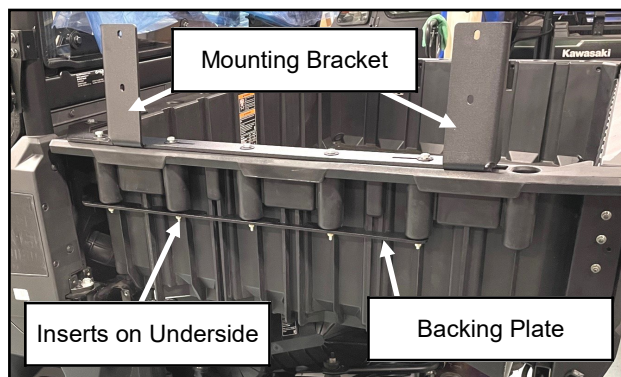

Fig. 8; Install Left Bracket and Backing Plate
8. Put the bed back down. Using (6) of the supplied 5/16" X 6" long bolts and (6) 5/16" washers, use a 1/2" socket to install the left mounting bracket and backing plate. Repeat this step on the right side of the bed with right mounting bracket and backing plate. Torque the 5/16" bolts to 150 (Inch-Pounds) or 17 (Newton-Meters). See Fig. 8.
*Note: Make sure that the threaded inserts on the backing plates are pointed towards the ground as shown in Fig. 8.*